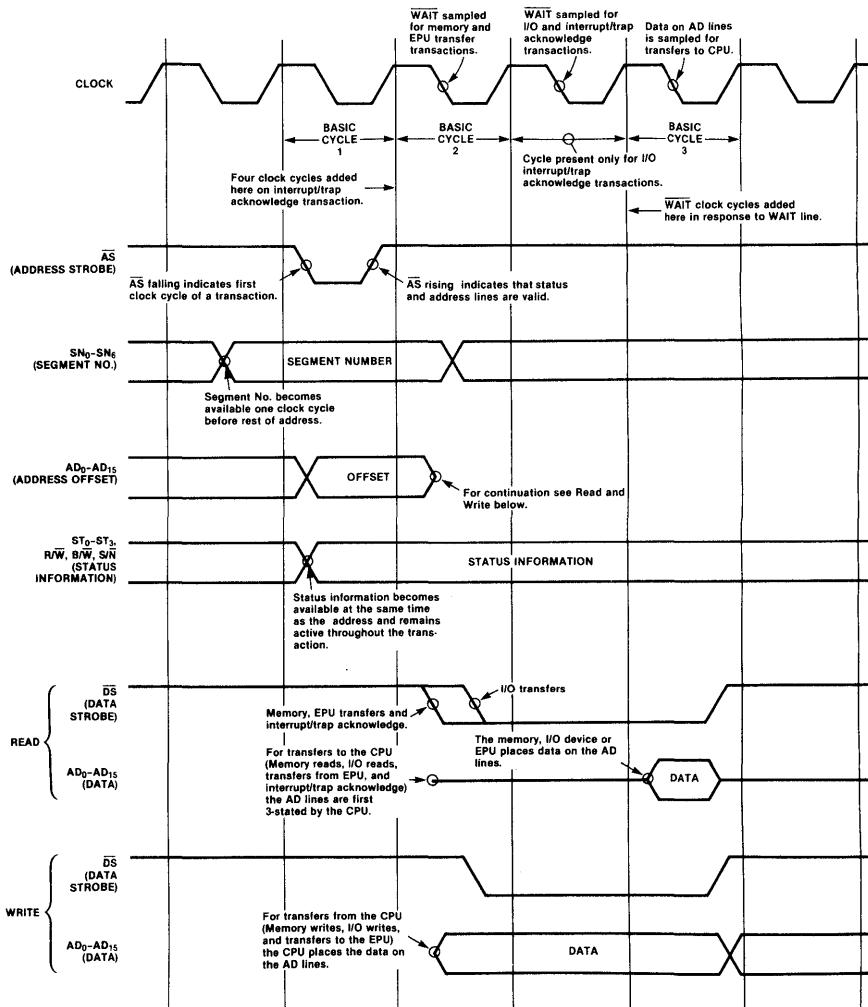

Figure 9-2. Transaction Timing
Data transfers to and from the CPU are accomplished through the use of transactions. Figure 9.2 shows the general timing for a transaction.
9.4.1 WAIT. As shown in Figure 9.2, WAIT is sampled on a falling clock edge one cycle before data is sampled by the CPU (Read) or \bar{DS} rises (Read or Write). If WAIT is Low, another cycle is added to the transaction before data is sampled or \bar{DS} rises. In this added cycle and all subsequent cycles added due to WAIT being Low, WAIT is again sampled on the falling edge and, if it is Low, another cycle is added to the transaction. In this way, the transaction can be extended to an arbitrary length to accommodate (for example) slow memories or I/O devices that are not yet ready for data transfer.